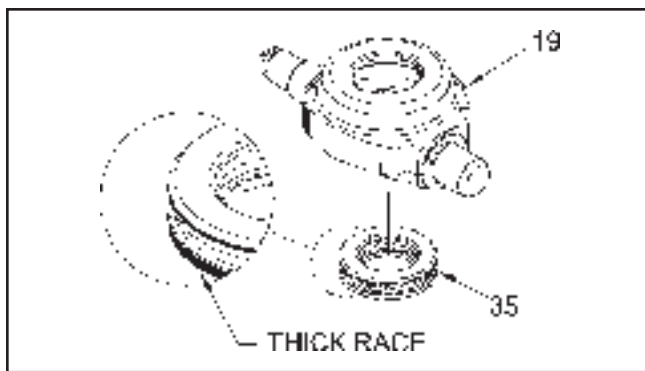

Figure 20.
11. **(See Figure 20)** Remove the thrust bearing assembly (35) from the swashplate (19).
11. **(See Figure 20)** Install the pump thrust bearing (35) in the trunnion machined swashplate (19). NOTE: Place the thin race of the bearing towards the swashplate. The thick race must face the pistons.